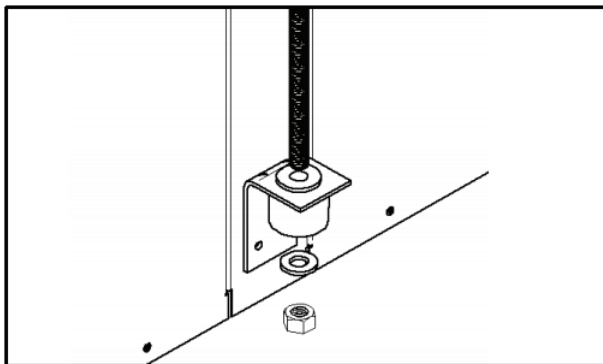

Fig. 9 — Hanging the Unit
3. Install rubber grommet on the bracket as shown in Fig. 9.
4. Hang the unit and assemble the field-provided threaded rod, nuts, and washers on the brackets as shown in Fig. 9.